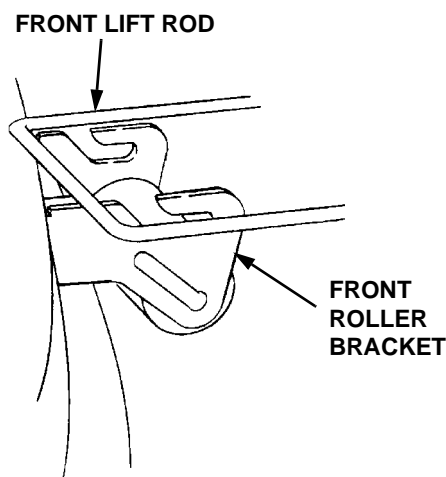

Figure 46
7. Raise the tractor implement lift handle to its highest setting. Slide the mower deck forward, so the front lift rod rests to the rear of, and free of, the front roller bracket slots of the deck (See Figure 46).